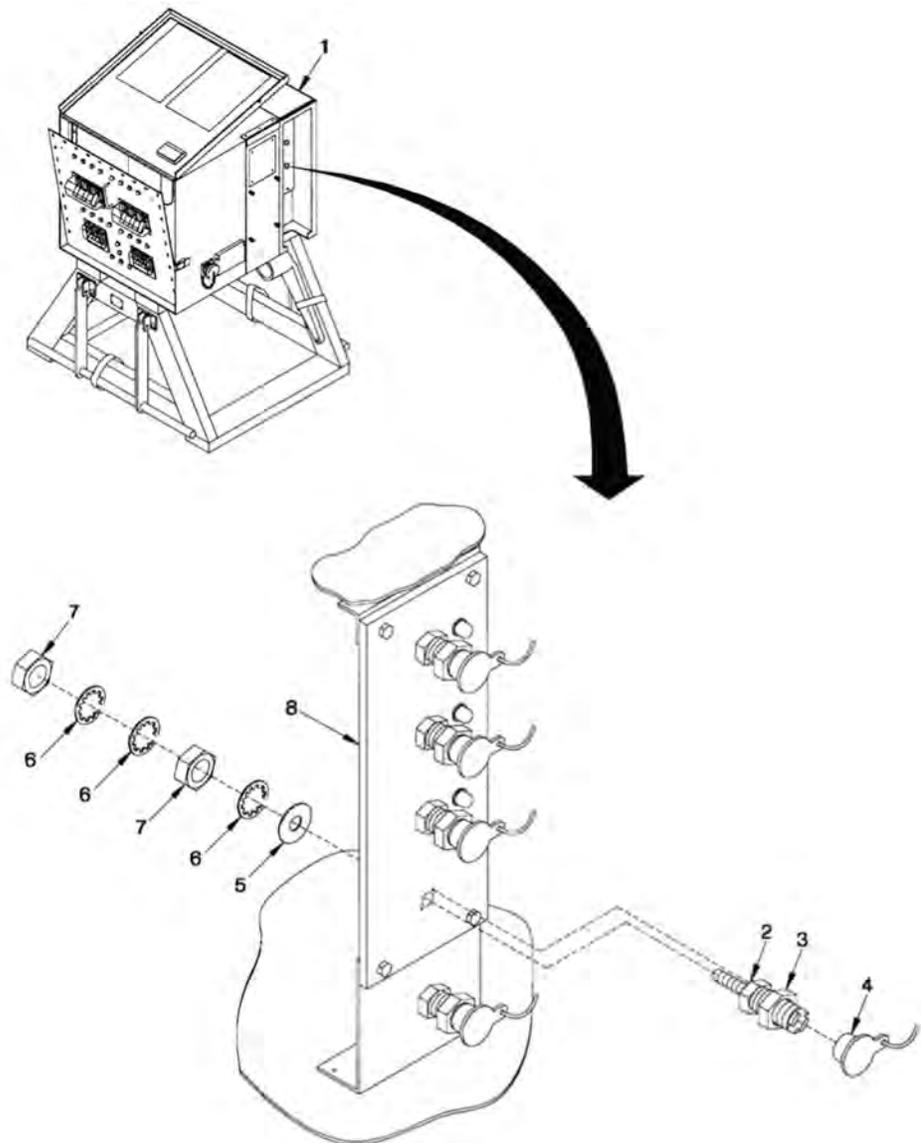

Figure 2. Circuit No.'s 3 and 4 Terminal Post.
1. Perform steps contained in paragraph WP 0027 to gain access to rear of terminal post mounting plate (Figure 2, Item 8).
2. Open circuit no. 3 or 4 side panel access cover (Figure 2, Item 1) and secure it in open position.
3. Locate rear of terminal post (Figure 2, Item 3) to be removed. Tag any wire(s) connected to terminal post.
4. Using a 3/4 inch deep well socket, remove and retain one nut (Figure 2, Item 7), one lock washer (Figure 2, Item 6), securing wire(s) to terminal post (Figure 2, Item 3). Remove wire(s). Ensure wires are tagged.
5. On PP-8440/ASM, remove remaining nut (Figure 2, Item 7), two lock washers (Figure 2, Item 6) and one flat washer (Figure 2, Item 5) securing terminal post (Figure 2, Item 3) to terminal post mounting plate (Figure 2, Item 8). On PP-8440A/ASM, remove remaining nut (Figure 2, Item 7), one lock washer (Figure 2, Item 6) and two flat washers (Figure 2, Item 5) securing terminal post (Figure 2, Item 3) to terminal post mounting plate (Figure 2, Item 8).
6. On front of terminal post mounting plate (Figure 2, Item 8), remove safety cap (Figure 2, Item 4). Remove terminal post (Figure 2, Item 3).
8. Perform steps contained in WP 0027 to gain access to rear of terminal post mounting plate (Figure 2, Item 8).
9. Open circuit no. 3 or 4 side panel access cover (Figure 2, Item 1) and secure it in open position.
10. Slide terminal post (Figure 2, Item 3) through front of terminal post mounting plate (Figure 2, Item 8). Align terminal post so that terminal post anti-rotation stud (Figure 2, Item 2) fits into pre-cut hole in mounting plate. On rear of terminal post mounting plate (Figure 2, Item 8) on PP-8440/ASM, install one flat washer (Figure 2, Item 5), two lock washers (Figure 2, Item 6) and one nut (Figure 2, Item 7). Tighten nut (Figure 2, Item 7). On rear of terminal post mounting plate (Figure 2, Item 8) on PP-8440A/ASM, install two flat washers (Figure 2, Item 5), one lock washer (Figure 2, Item 6) and one nut (Figure 2, Item 7). Tighten nut (Figure 2, Item 7).
11. Place tagged wire(s) on terminal post (Figure 2, Item 3) and secure wires by installing one lock washer (Figure 2, Item 6) and one nut (Figure 2, Item 7). Remove tag(s) from wire.
12. On front of mounting plate (Figure 2, Item 8), place terminal post safety cover (Figure 2, Item 4) on terminal post.
13. Close and secure side panel access cover (Figure 2, Item 1).